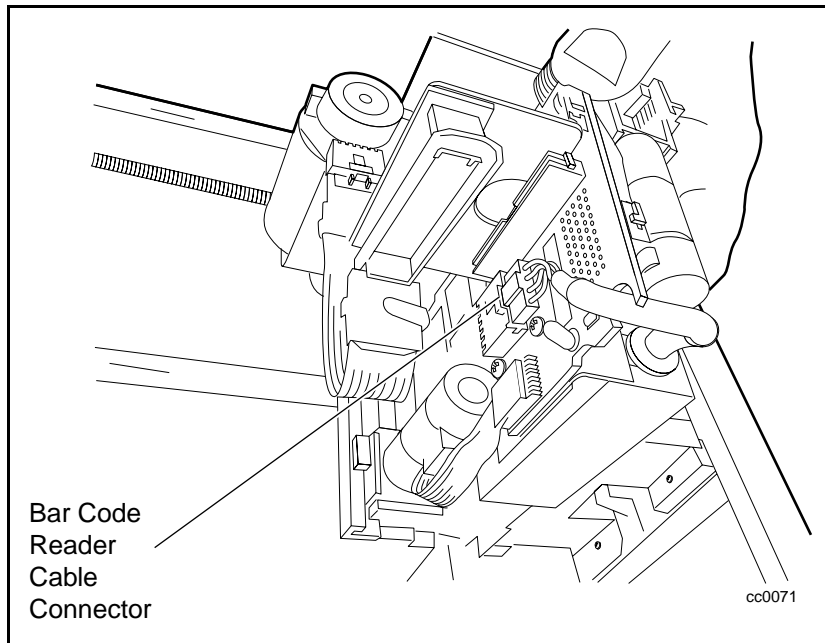

Figure 5-2. Disconnecting the bar code reader cable
3. Disconnect the bar code reader cable (see Figure 5-2).
3. Reconnect the bar code reader cable (see Figure 5-2).